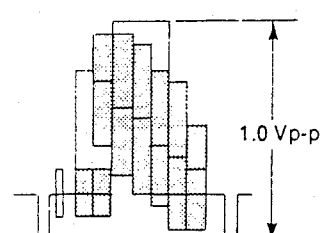

Figure 2-7
2. Play the colour bar portion of the alignment tape and adjust R201 so that the signal amplitude is measured 1.0 Vp-p on the oscilloscope as shown in Figure 2-7.